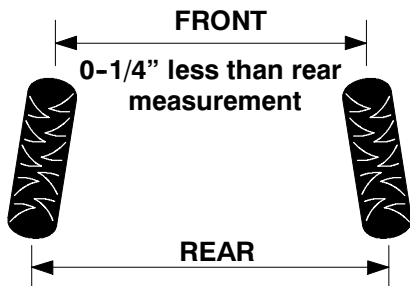

Figure 9
2. Measure the center-to-center distance (at approximately axle height) at the front and rear of sulky tires (Fig. 9). Front measurement should be 0-1/4" less than rear measurement. If it does not measure correctly proceed to step 3.